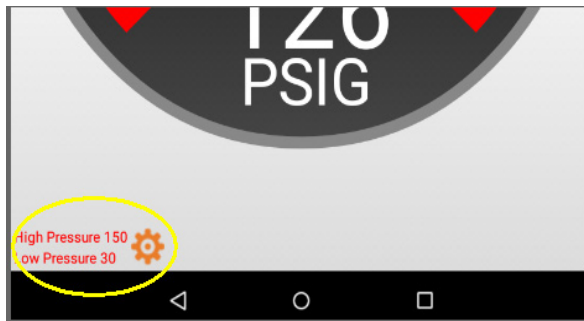
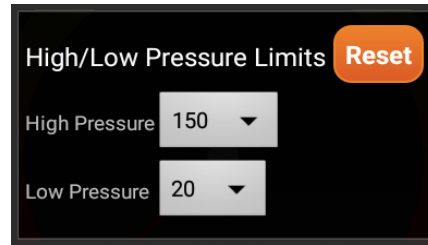

Figure 29 High/Low Pressure Limits
Figure 30 High/Low Limits Dialog
The pressure limits screen is an alert dialog for modifying the pressure limits. When you press the high/low pressure text or the gear icon on the pressure screen (see Figure 29), a dialog (see Figure 30 on page 36) appears allowing you to modify the high/low pressure warning settings. The reset button sets the pressure limits back to their default values of low=20 and high=150.
- Select the high or low pressure text (see Figure 29).